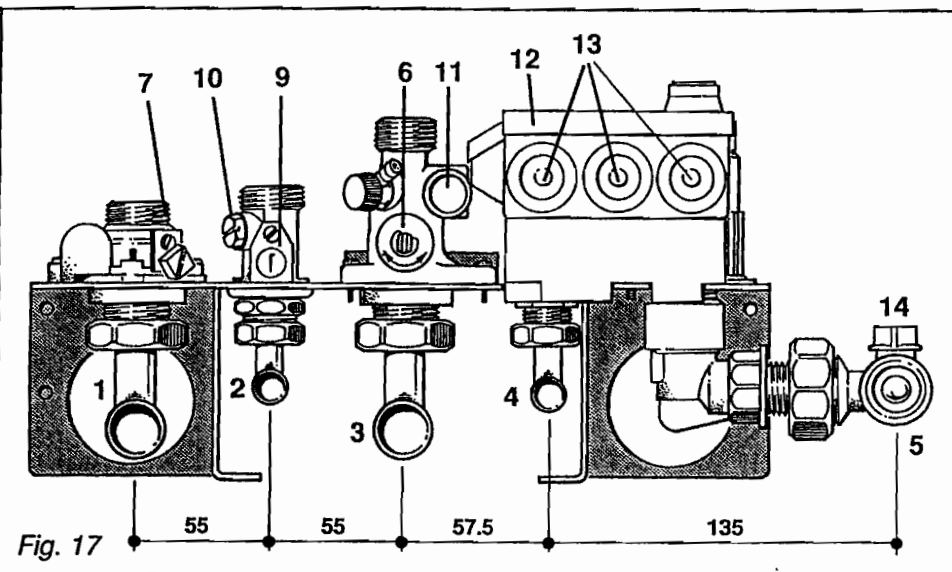

Fig. 17
6.11.2 The connecting plate incorporates the following for the installer's/service engineer's convenience - refer to Fig 17.
6.11.6 Connect water pipes to the connecting plate using the four connection elbows provided, as shown in Fig.17.